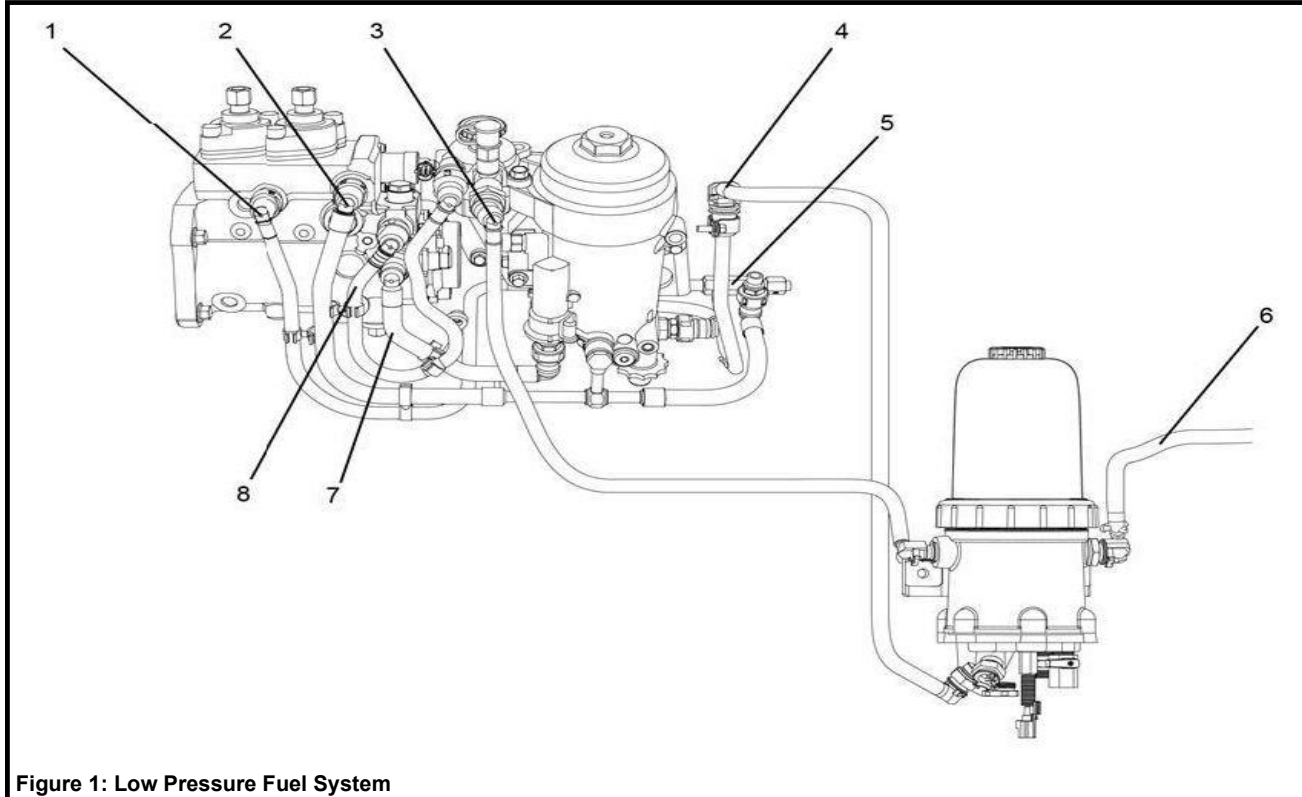

Figure 1: Low Pressure Fuel System
<ul style="list-style-type: none"> Remove and manually flush the prepump fuel supply hose (Figure 1, item 8). Set aside for later installation.